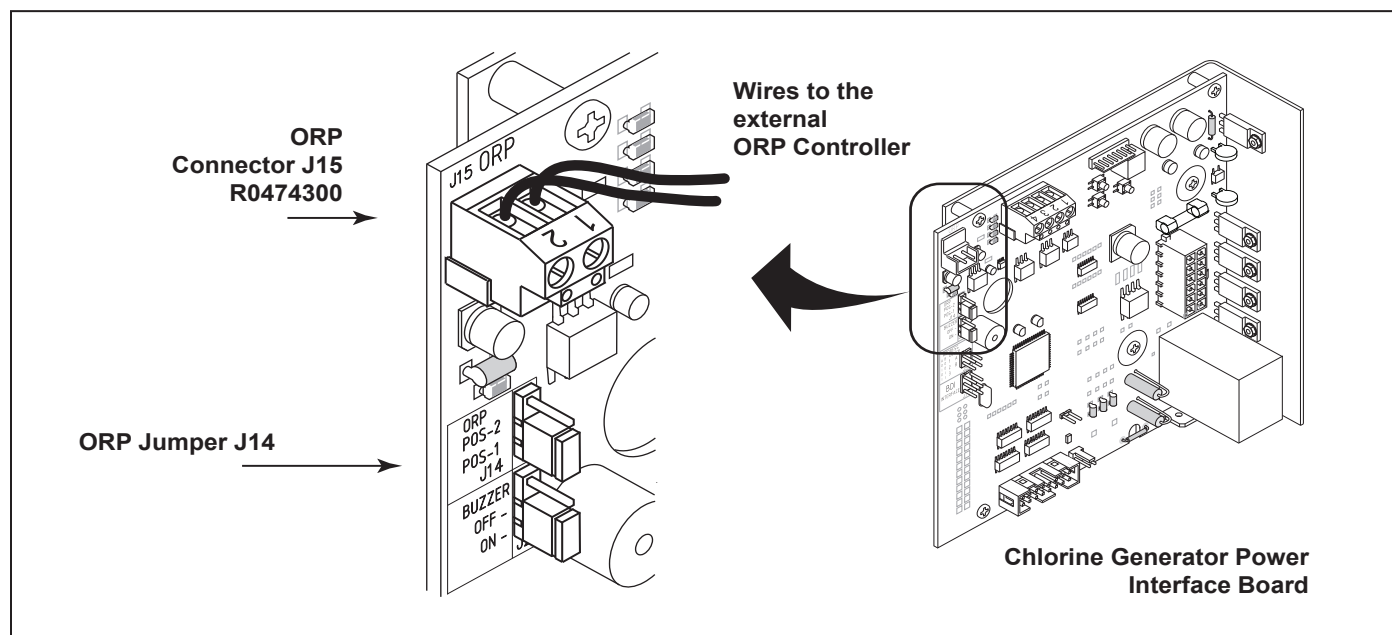

Figure 17. Movable ORP Jumper J14
An external device such as an ORP (Oxidation Reduction Potential) controller supplying 24 Volts AC can be used to control the output of the chlorinator. The chlorinator control board can be set up in the field to operate in two (2) different modes. The mode of operation is determined by the position of a movable jumper J14. See Figure 17 for location.
**POS-1** Wait at least one (1) minute after applying power. See note 1.